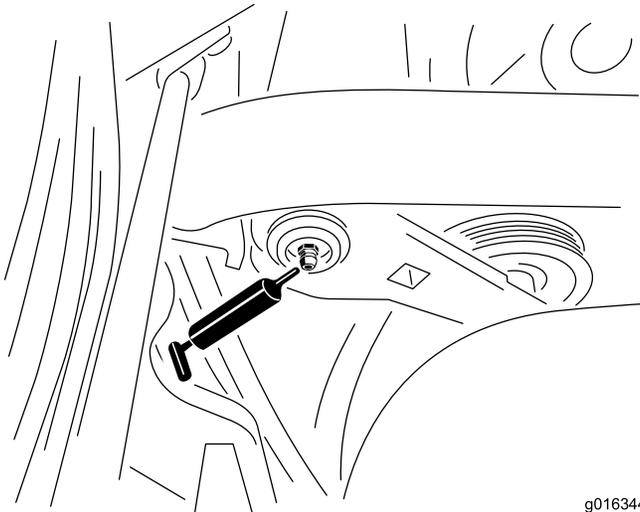

Figure 45
1. Wipe the grease fitting clean so foreign matter cannot be forced into the bearing or bushing (Figure 45).